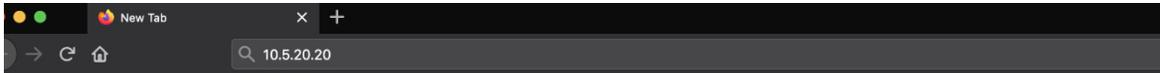

Fig. 4.1
1. With your IE browser open, enter the camera's IP address (from Table 3.1) into the URL field, see Fig. 4.1. The IP address used here is only an example and will differ to the actual one used.